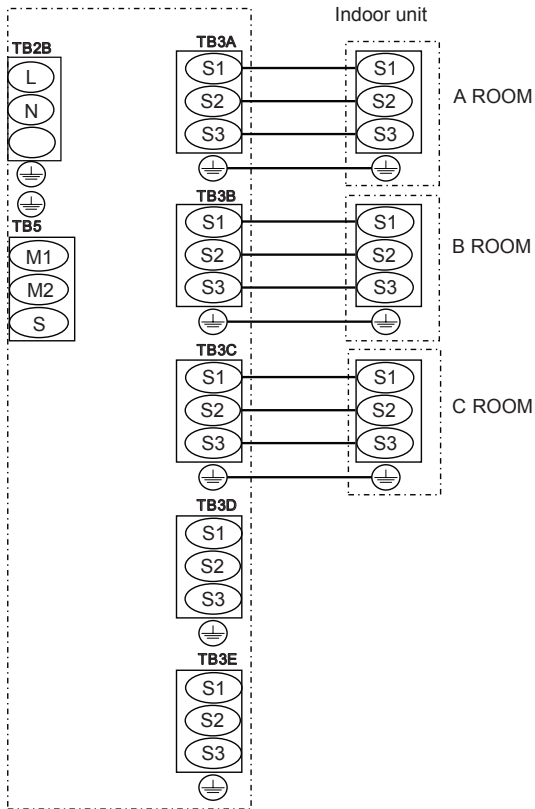

Fig. 8-9
8.2. External wiring procedure (Fig. 8-8, Fig 8-9)